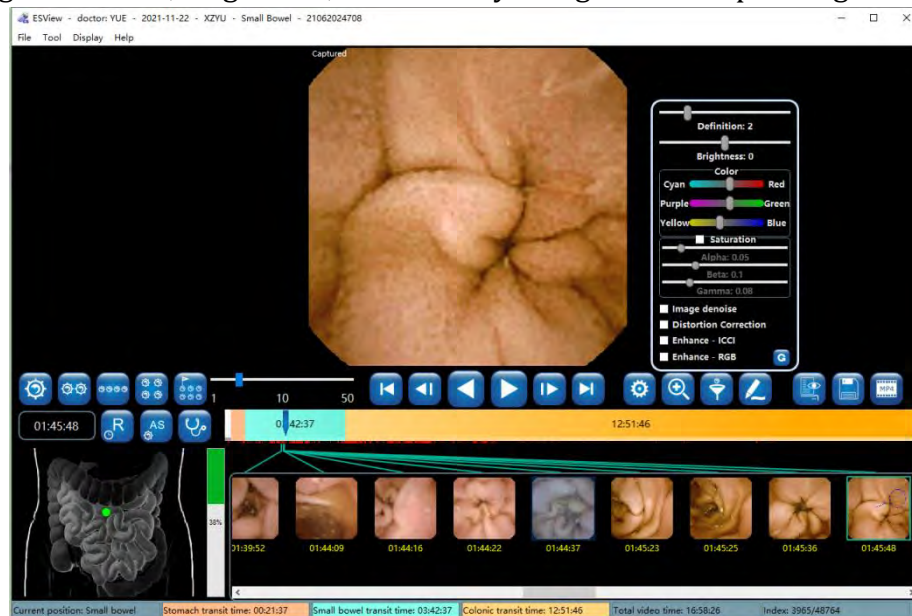

Figure 4-31: Image Processing Control Panel
- Clicking  will bring up the image processing control panel (Figure 4-31). The user can adjust image definition, brightness, and color by using the corresponding sliders.